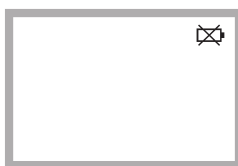

Figure 8
- Replace battery when "  " appears in the upper right corner of LCD display. (See Figure 8)